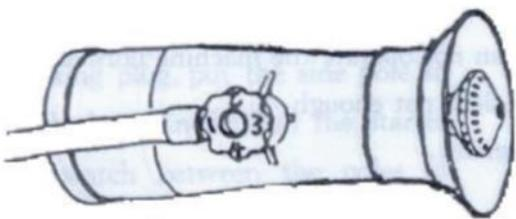

Fig. 9
(1) Misting. Loosen the pressing lid, regulate the length of the nozzle opening to meet the different requirements of misting. Turn the regulating valve to change the amount of misting. See Fig. 9.